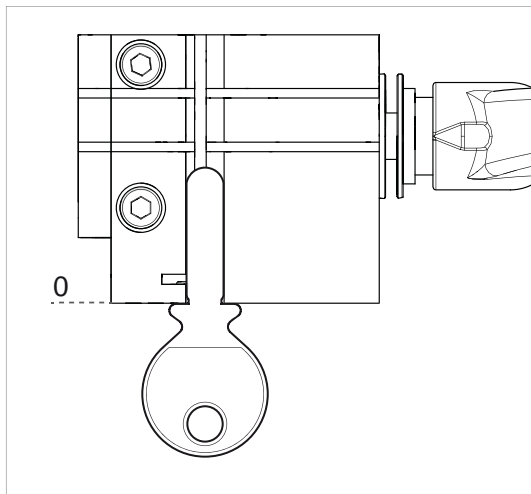

Fig. 21
- 1) Place the original key into the left-hand clamp of the machine making sure that the key stop is pressed against the clamp (Fig. 21) and lock it.